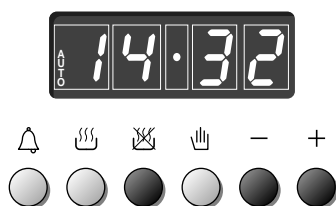

Fig. 4.6
2. Set the end of the cooking time by pressing the  button (the cooking time already added to the clock time will appear), and the  button (fig. 4.6); if you pass the desired time you may get back by pushing the  button.